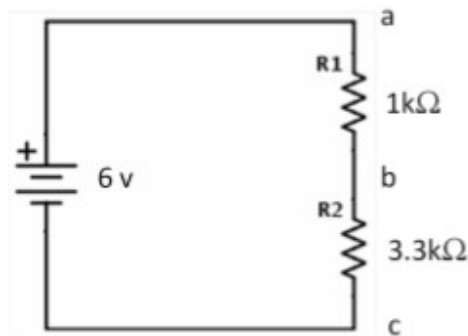

Figure 4
- Construct the circuit in Figure 4.
- Set the generator to a 2kHz sine wave with 2Vp-p amplitude. Set the scope timebase to 100 $\mu$ S/Div and the vertical control to 1VOLTS/DIV. Sketch the waveform in Figure 4.